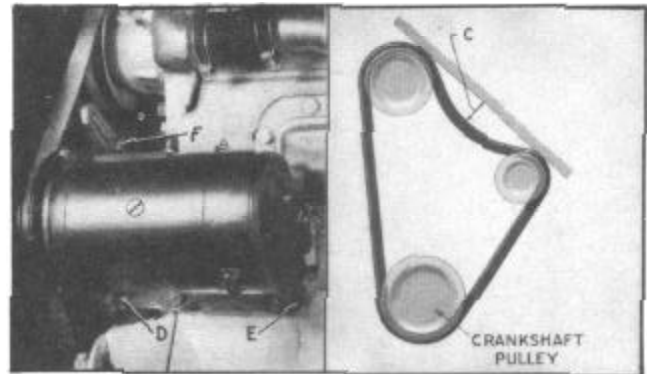

Figure 12--Adjusting Fan Belt
3. Install fan belt and adjust the tension to 3/4". (see Figure 12).
1. Loosen the two generator bracket bolt nuts D and E (Figure 12) adjusting the arm nut F and bolt holding adjusting arm to cylinder block.
pulley can be pushed down 3/4" below a straight edge laid across these pulleys as shown at (C), Figure 12.